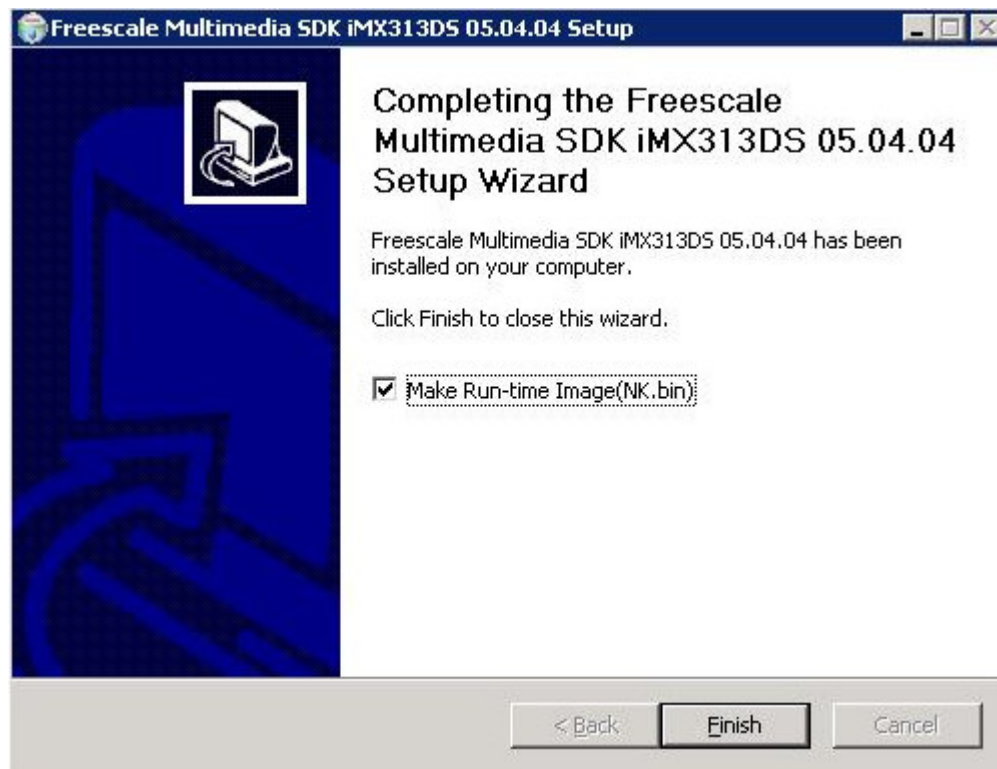

Figure 1-4 Completing the Installation
7. In the final installation window (Figure 1-4) you can select whether to do a clean build for the Windows CE OS Image automatically.